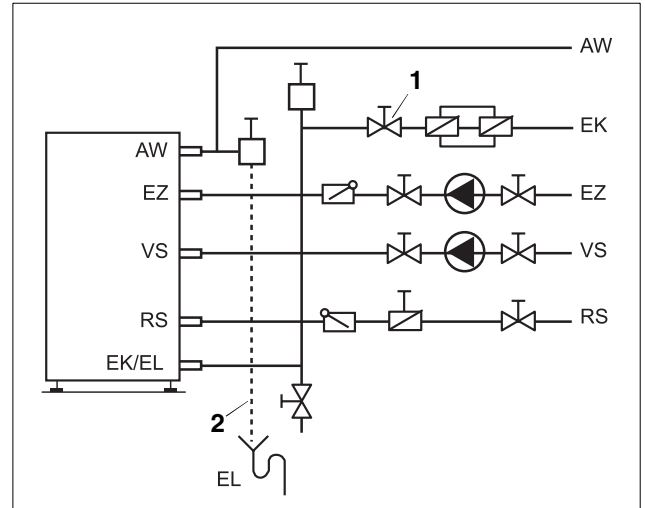

Fig. 13 Installation diagram
- Open the cold feed to the tank (Fig. 13, **page 13. 1**) to fill the tank.
- Make sure that the P and T relief piping Fig. 13, page 13) is **NEVER** blocked.
- Make sure to always keep P and T relief piping open and unobstructed (Fig. 13, page 13).